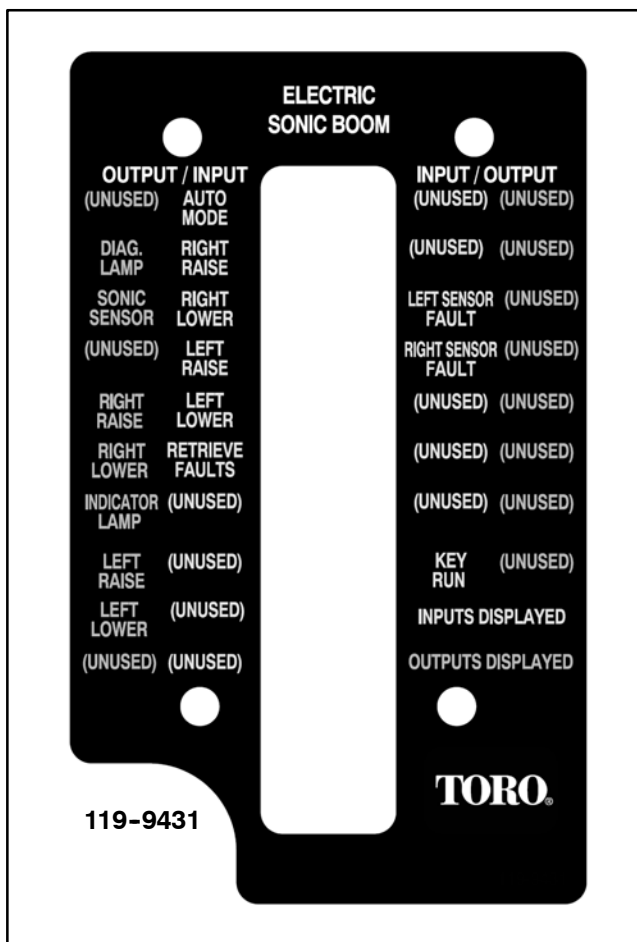

Figure 12
3. Connect the Diagnostic Display connector to the wire harness communication port connector. Make sure correct overlay decal is positioned on the Diagnostic Display (Fig. 12).